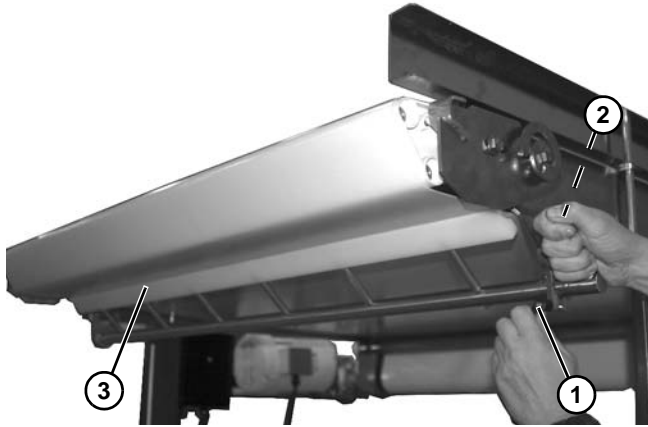

Figure 66
1. Loosen clamp handle (**Figure 66, item 1**) and rotate scraper shaft handle (**Figure 66, item 2**) to lower scraper assembly (**Figure 66, item 3**).